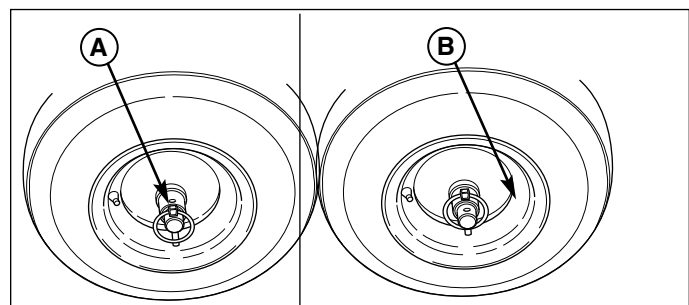

Figure 9. Traction Drive Lock
For easy turning when pushing the snowthrower, disengage the right wheel using the traction lock pin (See Figure 9).
2. To DISENGAGE the traction drive lock, insert the Traction Lock Pin (A, Figure 9) through the outer hole in the right axle. The unit can now be pushed with minimal resistance.
3. To ENGAGE the traction drive lock, align the hole in the hub with the inner hole in the axle, and install the Traction Lock Pin (B).